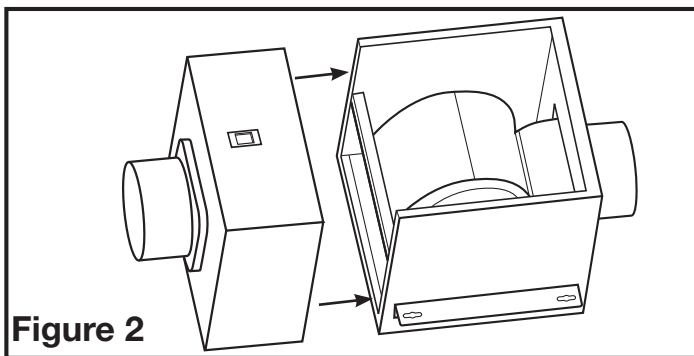

Figure 2
3. Mount the filter box to the AKZA using the included screws (Figure 2).